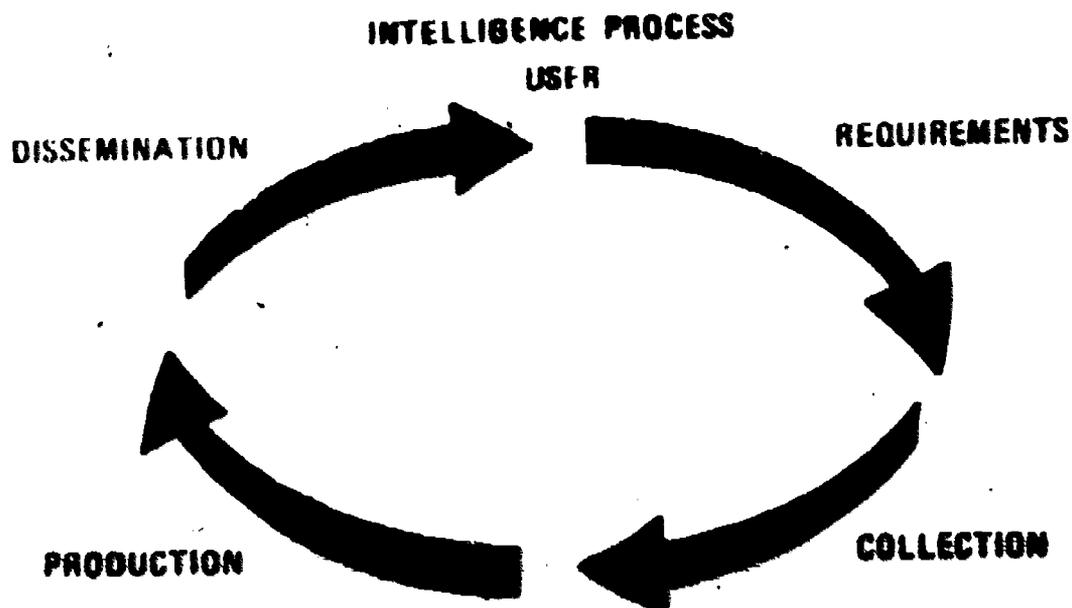

Figure 1-1. The Intelligence Cycle
- a. Dissemination The timely distribution of intelligence in suitable form to agencies needing it. See figure 1-1.